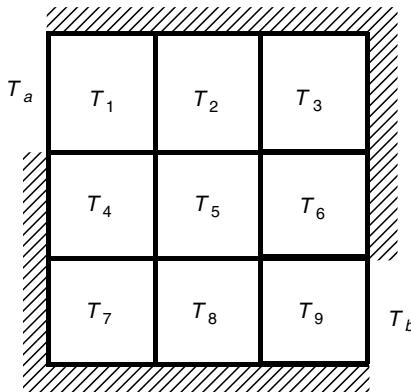

Figure P10
- 10.** Use the averaging principle developed in Problem 9 to find the temperature distribution of the plate shown in Figure P10, using the 3×3 grid and the given values $T_a = 150^\circ\text{C}$ and $T_b = 20^\circ\text{C}$.